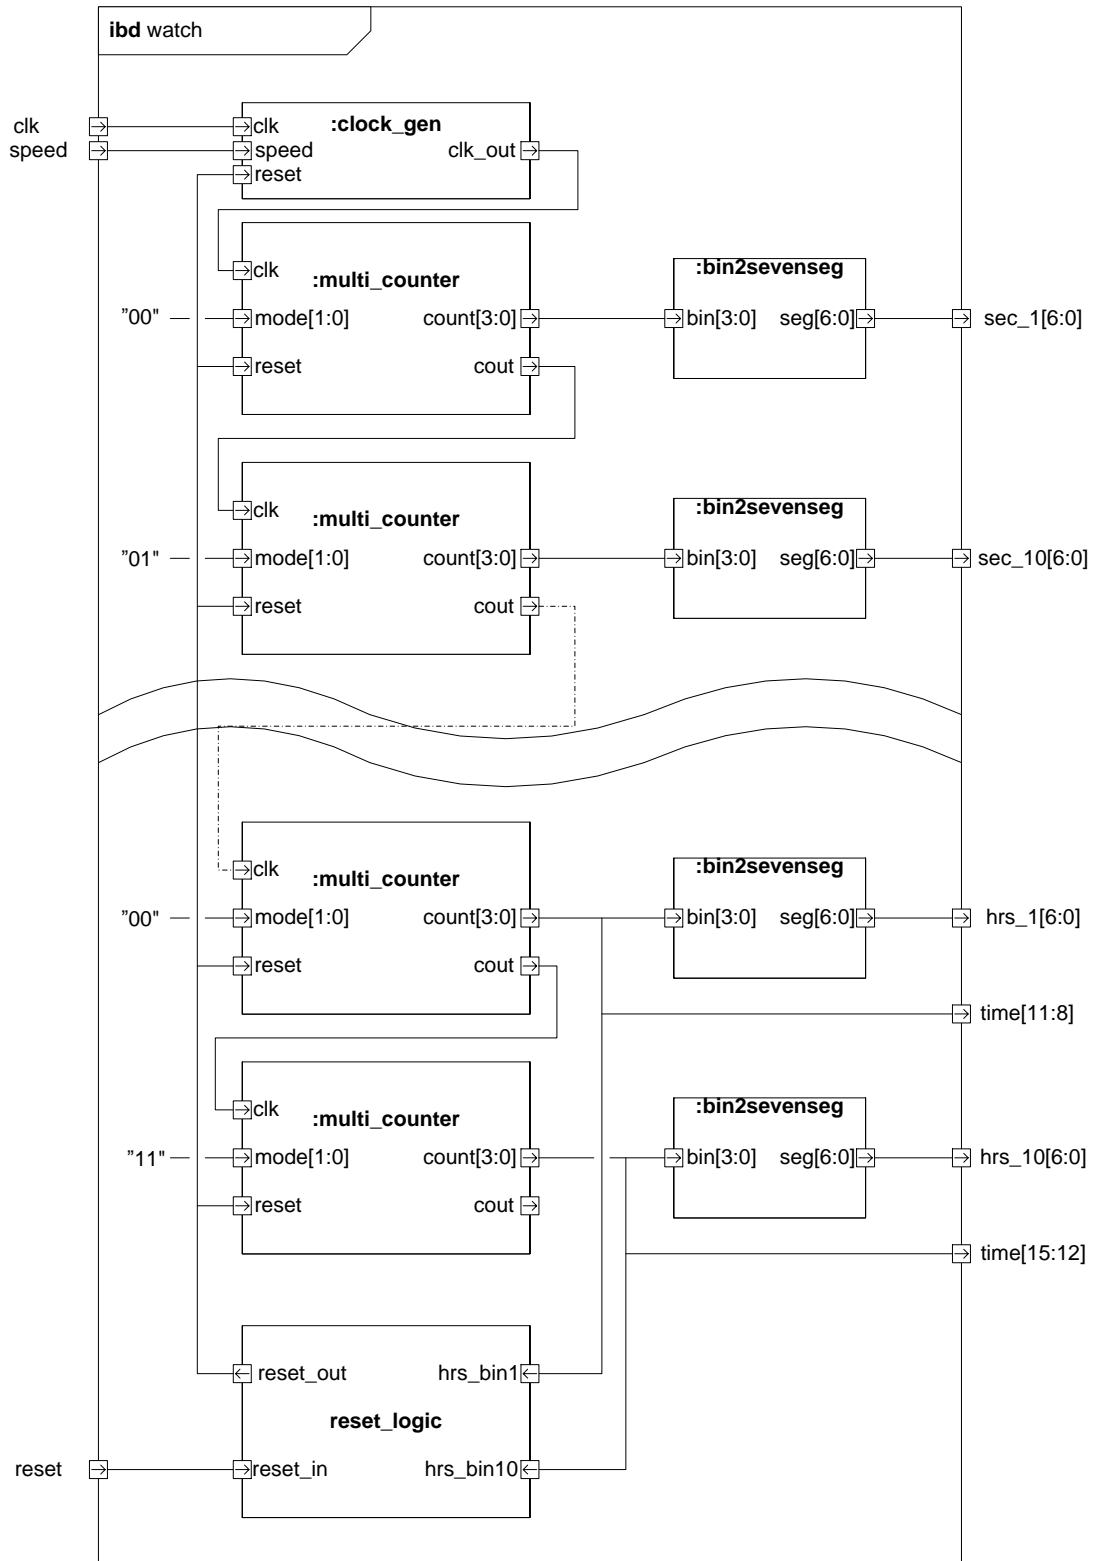

FIGURE 3 WATCH IBD (MINUTES NOT SHOWN)
- 1) Create a new design entity, *watch*, move the design from step 2 into it and extend the design to 6 cascade coupled instances of the multi_counter component, so it will end up as a 6 digit 24 hours clock (eg.. 23 : 59 : 59). Refer to the Figure 3 for design inspiration. Use the "count" values, from the hour counters, to control when to reset all counters to 00:00:00 (when they hit 24).